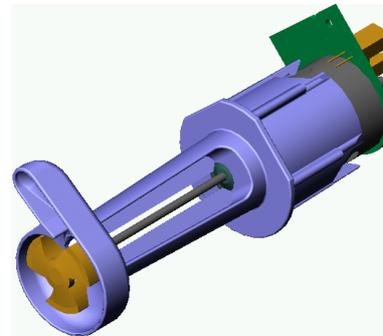

Fig. 4 Pump motor + rotor
- After a selection key is pressed, the pump motor (fig.4) is driven for a certain time, depending on the programmed amount, with a certain speed (number of revolutions).